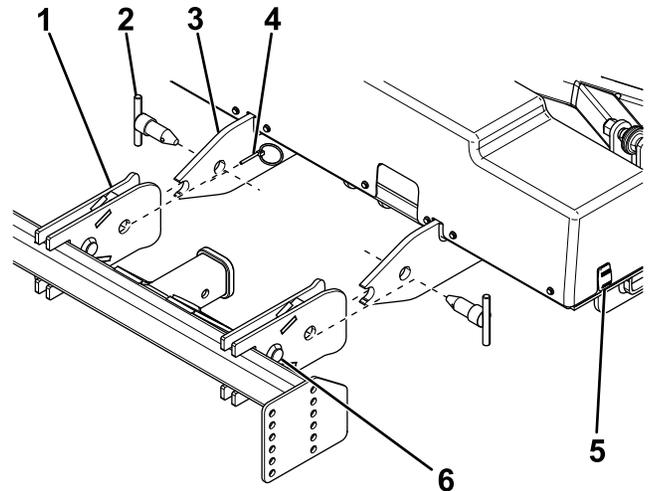

Figure 28
5. Remove the attachment pins securing the plow to the undercarriage (Figure 28).